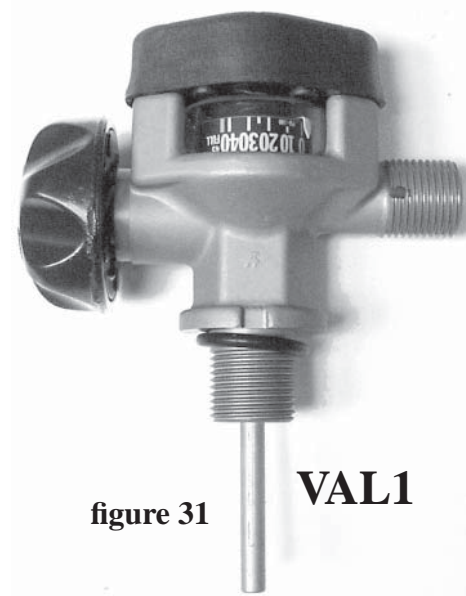

figure 31
15.6.1. The supply cylinder valves (figure 31) are very similar to the fill valves, along with some additional parts.